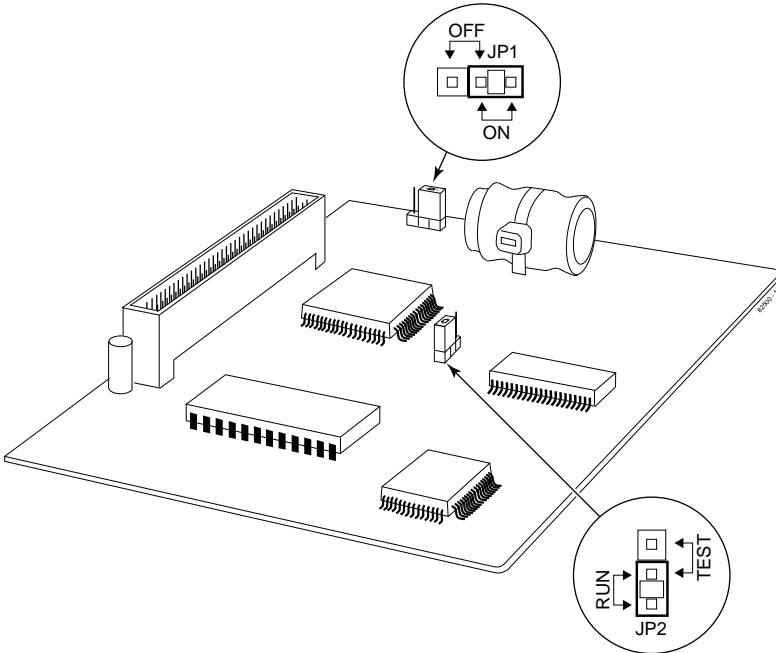

Figure 2-7 Fax PCB
FAX/DISA (3FAXU) PCB (Figure 2-7)
4. Move the jumper from the JP1 connector to the ON side (Figure 2-7).